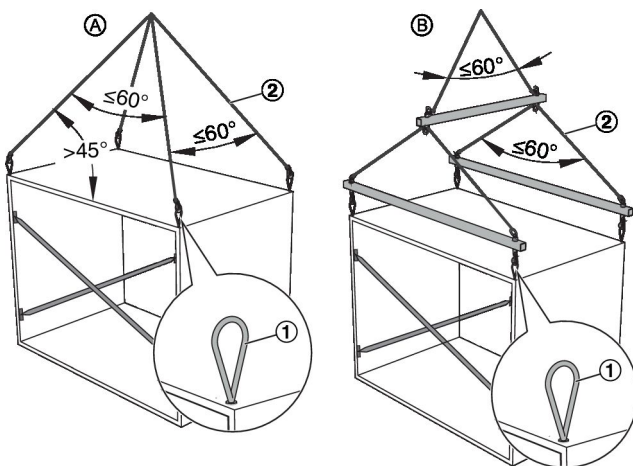

Fig. 7: Using lifting eyes for moving units with a crane
2. ▶ Insert all lifting eyes (Fig. 7 /1) completely into the threaded holes.
3. ▶ Hook the slings (Fig. 7 /2) into the lifting eyes.